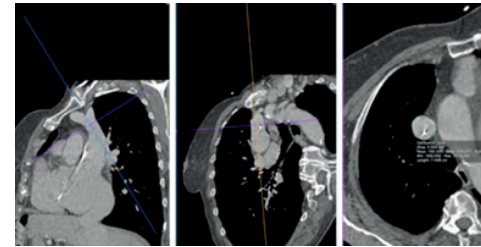

Figure 4: Adjust planes
1. Put the center of line's intersection at the interest point. Repeat for the 3 planes presented in 3D MPR screen (Figure 4).